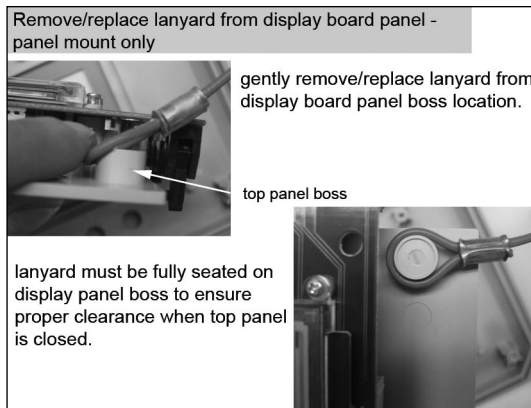

Figure 3.7
4. Carefully lift out the display board and remove the lanyard from the display board panel - figure 3.7. Set display board panel and top panel aside.
10. Reattach lanyard by placing lanyard at proper location of display board panel. Make sure lanyard is fully seated on display panel boss to ensure proper clearance when front panel is closed- figure 3.7.